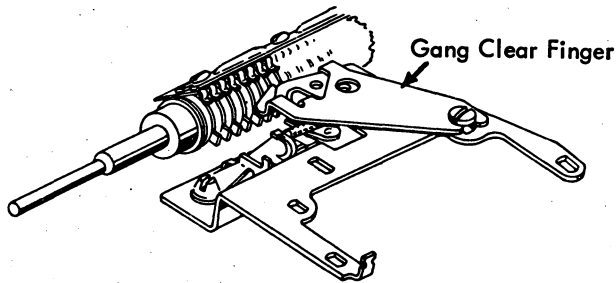

FIGURE 228A Gang Clear Finger
5. **Gang Clear Finger** (Ref. Fig. 228A)